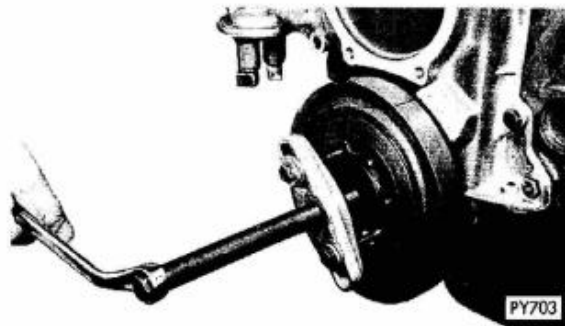

Fig. 22—Removing Vibration Damper Assembly
- (1) Drain cooling system and remove radiator, fan belt and water pump assembly.
- (2) Remove pulley from vibration damper and bolt and washer securing vibration damper on crankshaft.
- (3) Install Tool C-3688 and pull vibration damper from end of crankshaft (Fig. 22).
- (4) Remove fuel lines and fuel pump.